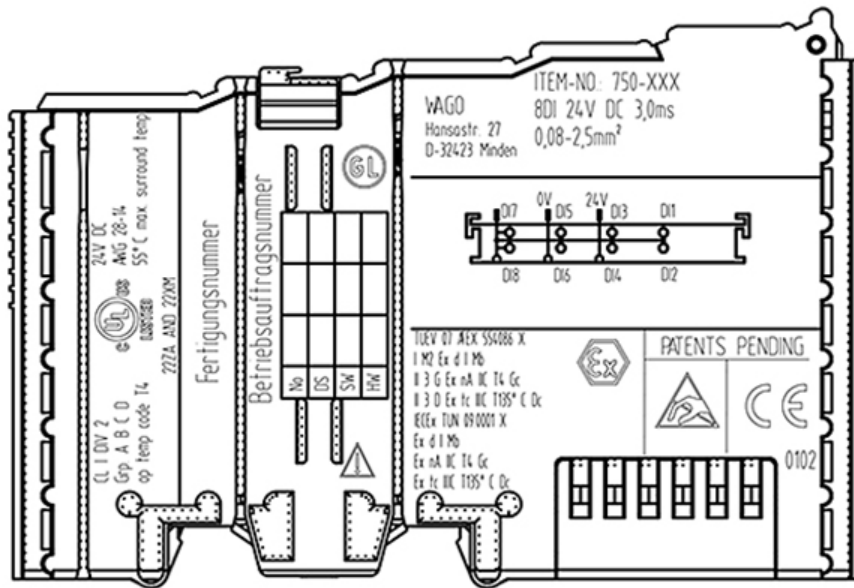

Figure 16: Side Marking Example for I/O Modules According to NEC 500
- Figure 16: Side Marking Example for I/O Modules According to NEC 500 38